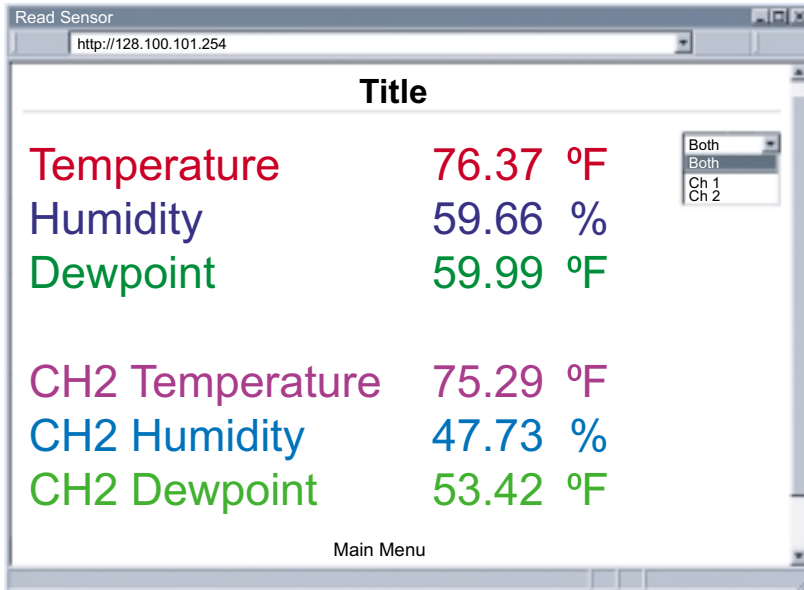

Figure 4.7 Read Sensor Menu
- You may select to display Channel 1, Channel 2, both (as Shown in **Figure 4.7**) or a difference between the two channels.